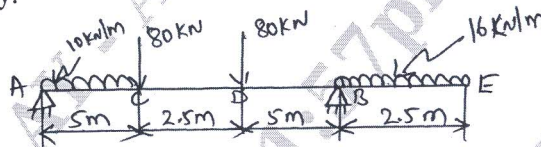

Fig.Q5(b)
- b. Draw shear force and bending moment diagram for a beam shown in the Fig.Q5(b). Locate point of inflexion if any.